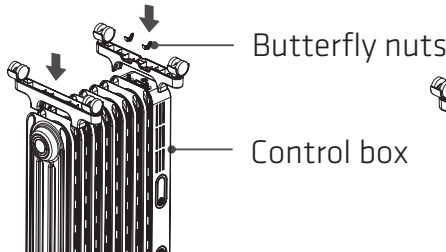

figure2
- Refer to figures 2 and 3. First, flip the heater so that the bottom is facing upwards. Align the two circular holes of the support assembly to the two screws at the bottom of the control box and press the assembly down. Next, remove the blue tape on the support foot and take out the butterfly nuts. Secure the foot assembly with the butterfly nuts. Make sure the mounting groove of the foot assembly is aligned and clamped with the clamping groove on the second heat sink.